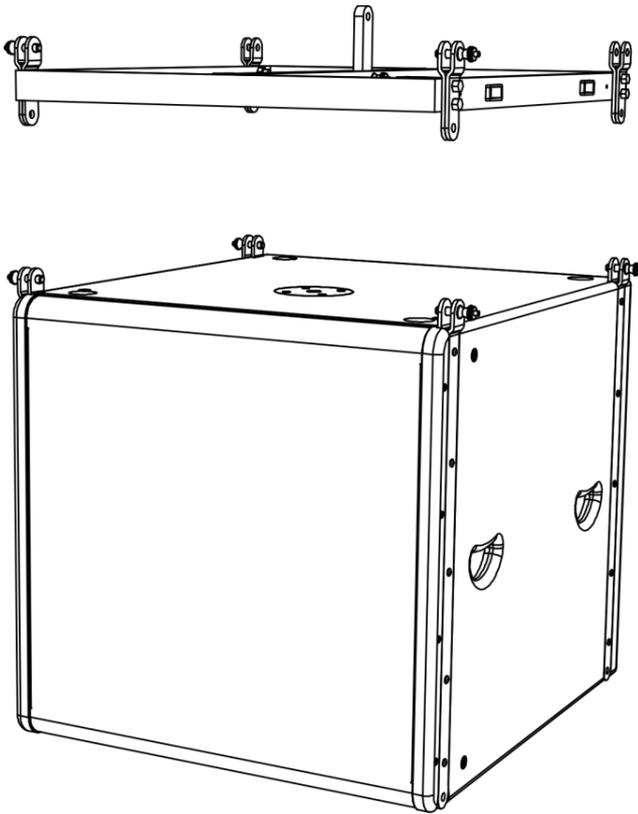

Fig. 02
- 01) Mount the fly bar to your Odin speaker, by means of the dedicated rigging pins (fig. 02). **Mind the SWL value of the Odin FB-02 Flybar: 350 kg. Do not exceed this rating!**